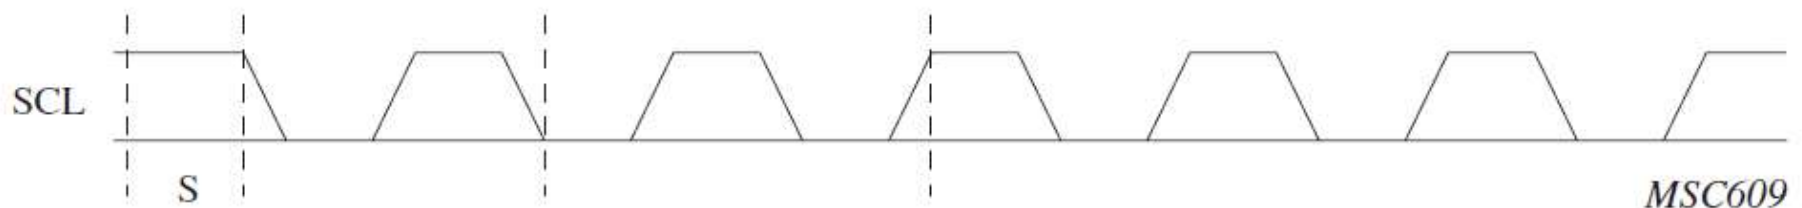

Figure 3: SCL cycles
- Basically, the SCL just cycles between HIGH and LOW (see Figure 3).